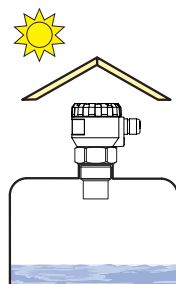

Fig. 13: Solar radiation shielding cover
- Rotating **mixer blades** can cause that the surface is stirred, which results in false reflections of the ultrasonic signal from the surface level and unreliable operation of the level meter (Fig. 13). (obr. 11). **For a rippled or swirling level, you can use the directional horn to eliminate scattering of the ultrasonic signal.**
- If the installation in places with direct solar radiation is inevitable, it is necessary to mount a **shielding cover** above the level meter (Fig. 13).